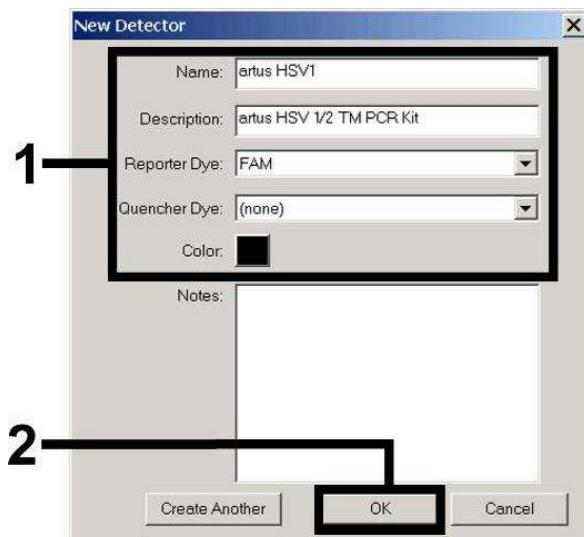
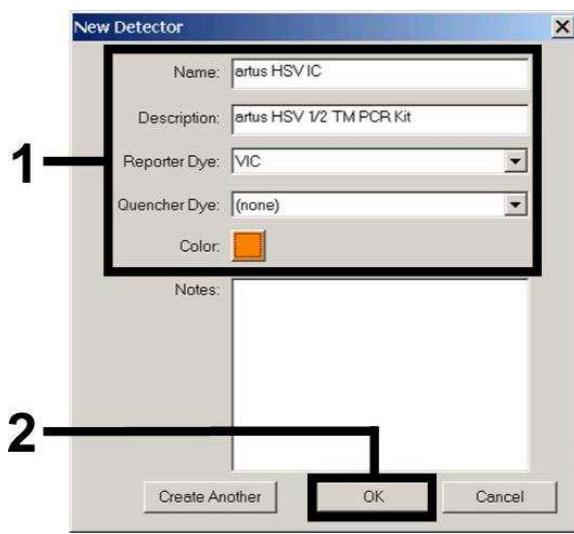

Fig. 4: Creating the HSV-1 specific detector (Detector Manager).
Fig. 6: Creating the IC specific detector (Detector Manager) for HSV-1/HSV-2.
For the detection of HSV-1 DNA or HSV-2 DNA define the reporter/quencher combination **FAM/none** or **NED/none** in the new window. For the detection of the *Internal Control*, select the combination **VIC/none** (as shown in Fig. 4 – Fig. 6). By confirming the input data (OK), return to the *Detector Manager*.